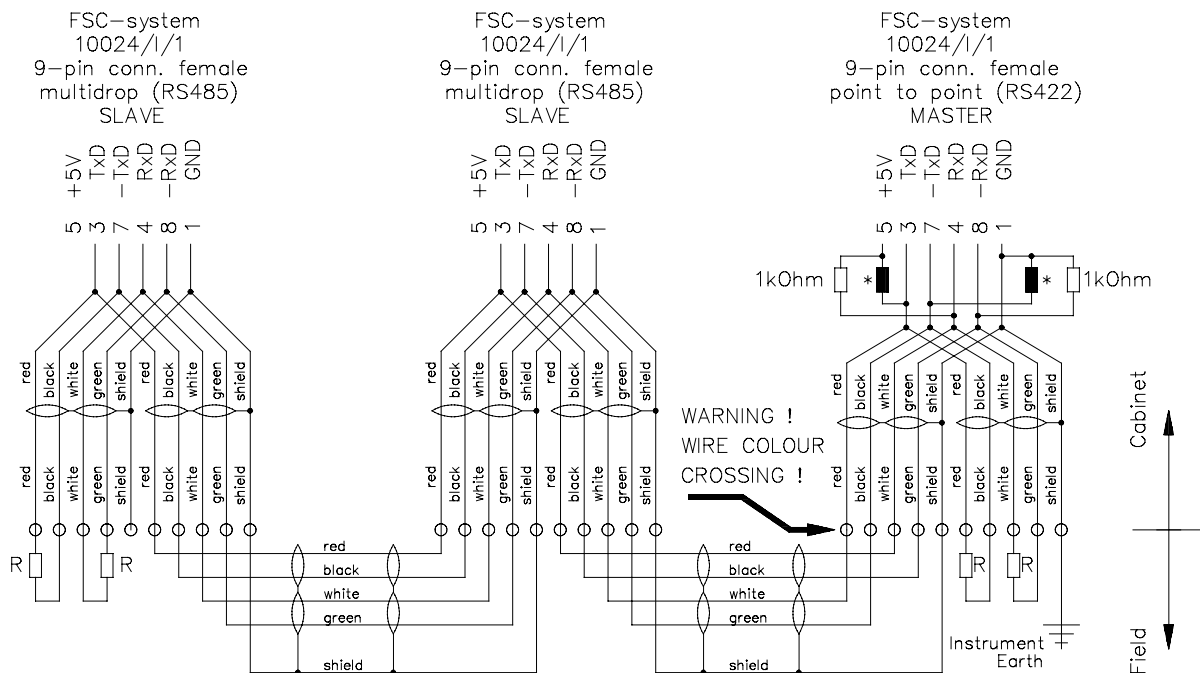

Figure 12 Connection between FSC master and max. 15 FSC slaves:
- Multidrop, duplex (between master and max. 15 slaves) (see Figure 12)